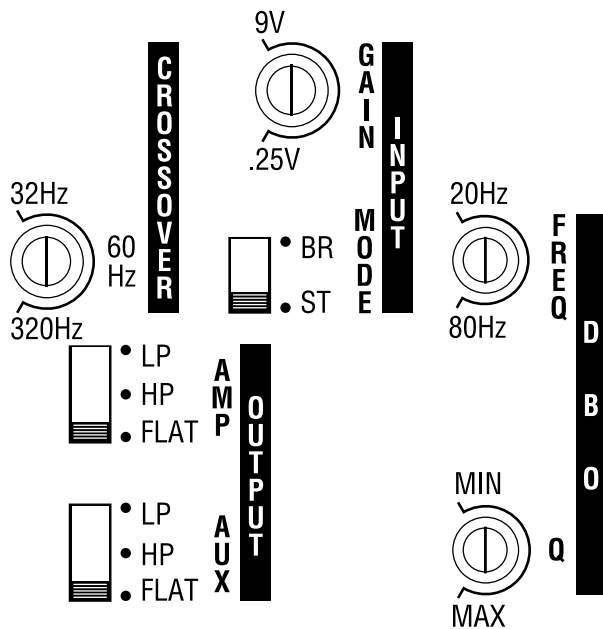

Figure 8. Kappa 202a controls for crossover, input, output, and DBO (Dynamic Bass Optimizer).
**IMPORTANT: If you plan to use the Kappa 202a to drive full-range speakers, set both AMP and AUX filters to FLAT (refer to Figure 1 on page 3 and Figure 8 below) and skip to the next section, "Setting Input Sensitivity".**
1. Set the CROSSOVER control to the frequency recommended by speaker manufacturer (refer to Figure 8). If the value is unknown, set the control midway.
2. Depending on your system plan, set the AMP and AUX switches to LP (low-pass), HP (high-pass), or FLAT (refer to Figure 8).
Initially, turn the input sensitivity GAIN control to its minimum (counter-clockwise) position (refer to Figure 8).